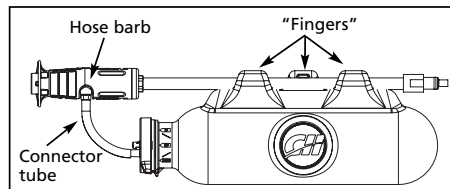

Figure 6
1. Place the tank on a sturdy, flat surface. Then wedge metal shaft of lance between the three "fingers" on top of tank (see Figure 6). NOTE: The fit is very tight. Use caution to prevent damage. Heating the center finger with a hair dryer will make installation easier.
2. Slide free end of connector tube onto hose barb attached to head of lance (see Figure 6).